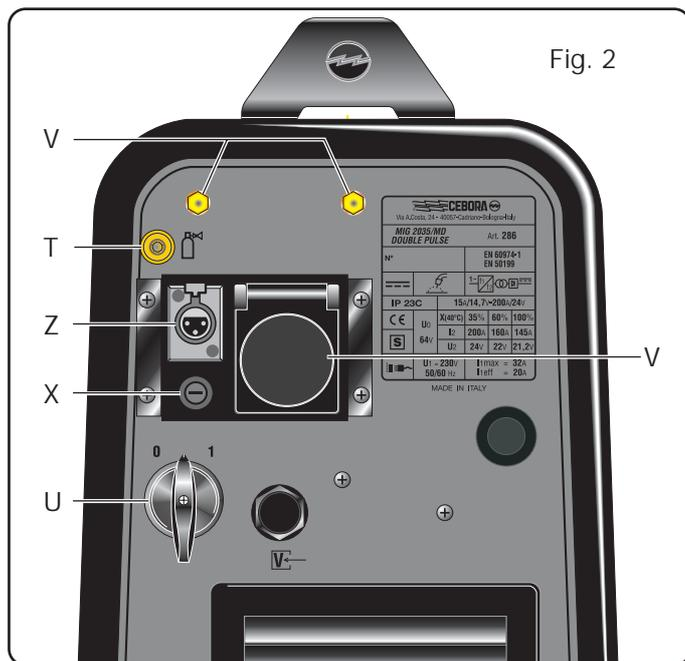

Fig. 2
**3.3 MANDOS EN EL PANEL POSTERIOR (Fig.2)**